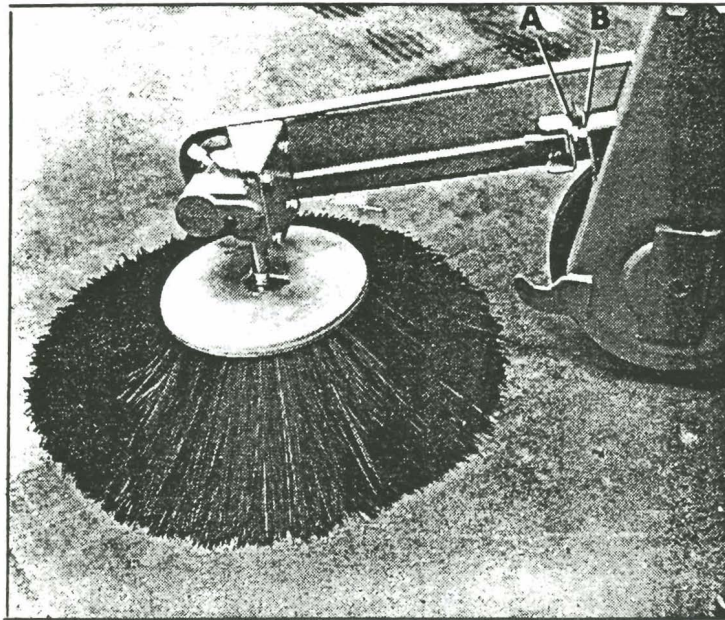

Fig. 2 - LOCATION OF BELT TENSION ADJUSTING SCREW
- d. Loosen locknut "A". See Fig. 2.
- e. To adjust tension, turn the adjusting screw "B" counter clockwise to tighten belt, clockwise to loosen it. See Fig. 2.